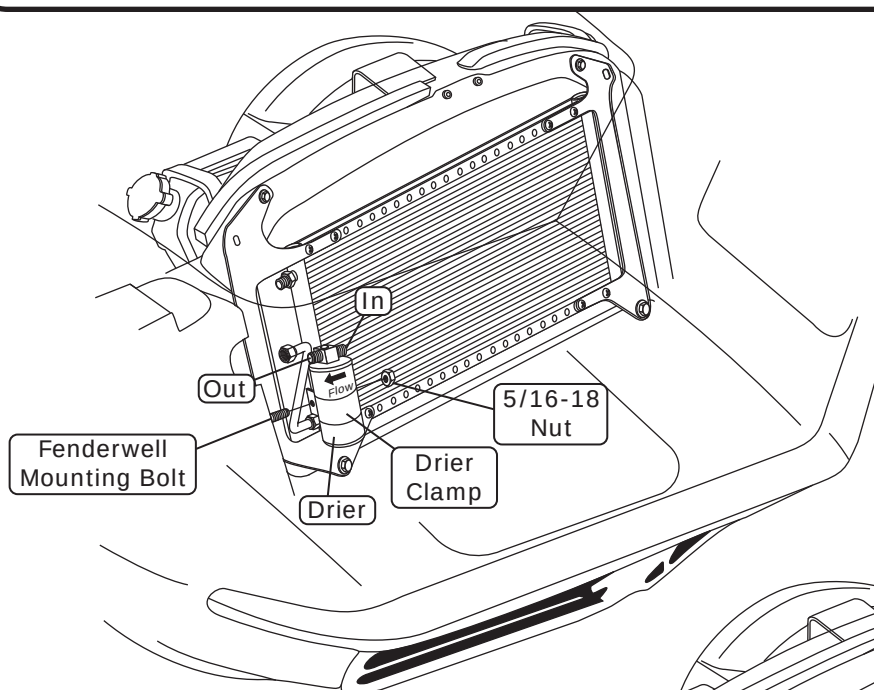

Figure 1
3. Install the drier onto the fenderwell bolt, then secure it using a 5/16-18 nut (See Figure 1, below). **NOTE: Refrigerant flow through the drier is IN from condenser, OUT to evaporator. Do not fully tighten the drier mounting bracket nut at this time. Hand tighten only.**